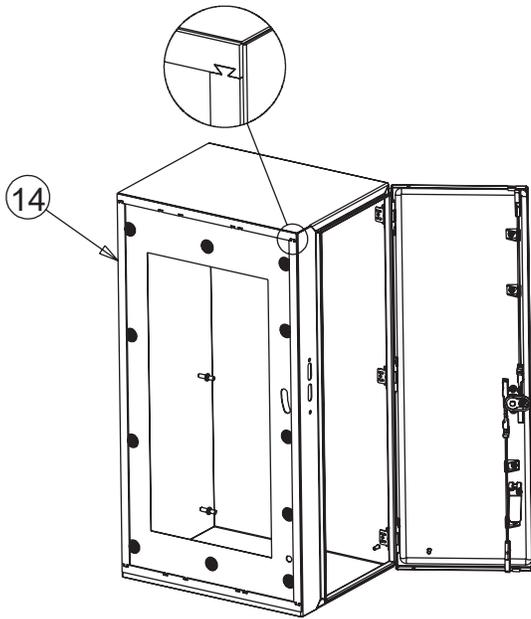
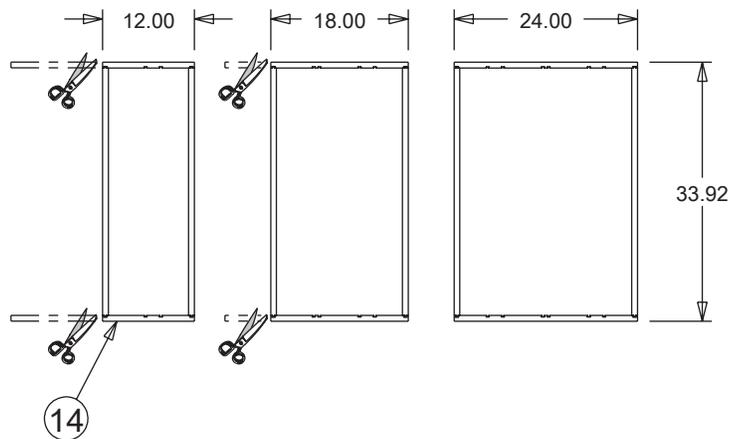

Figure 1A
Figure 1B
3. Install the gasket per Figure 1A, engaging the dove tail joints, and trim off any excess. Refer to Figure 1B for the correct enclosure depth configuration.